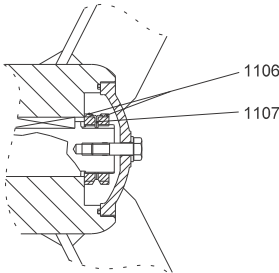

Fig. 9 Shaft nuts on propeller shaft
When mounting the hub/propeller, use lock washer (pos. 1107), and tighten the two shaft nuts (pos. 1106) to a torque of 50 Nm. See fig. 9.